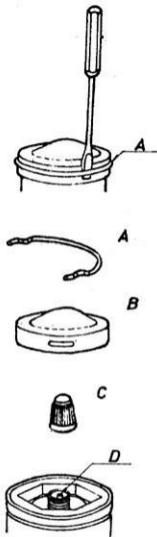

Fig. 1
2. Remove snap ring (A), then cover (B), then unscrew valve cap (C, Figure 1).
3. Make sure that the valve (D) is clean.